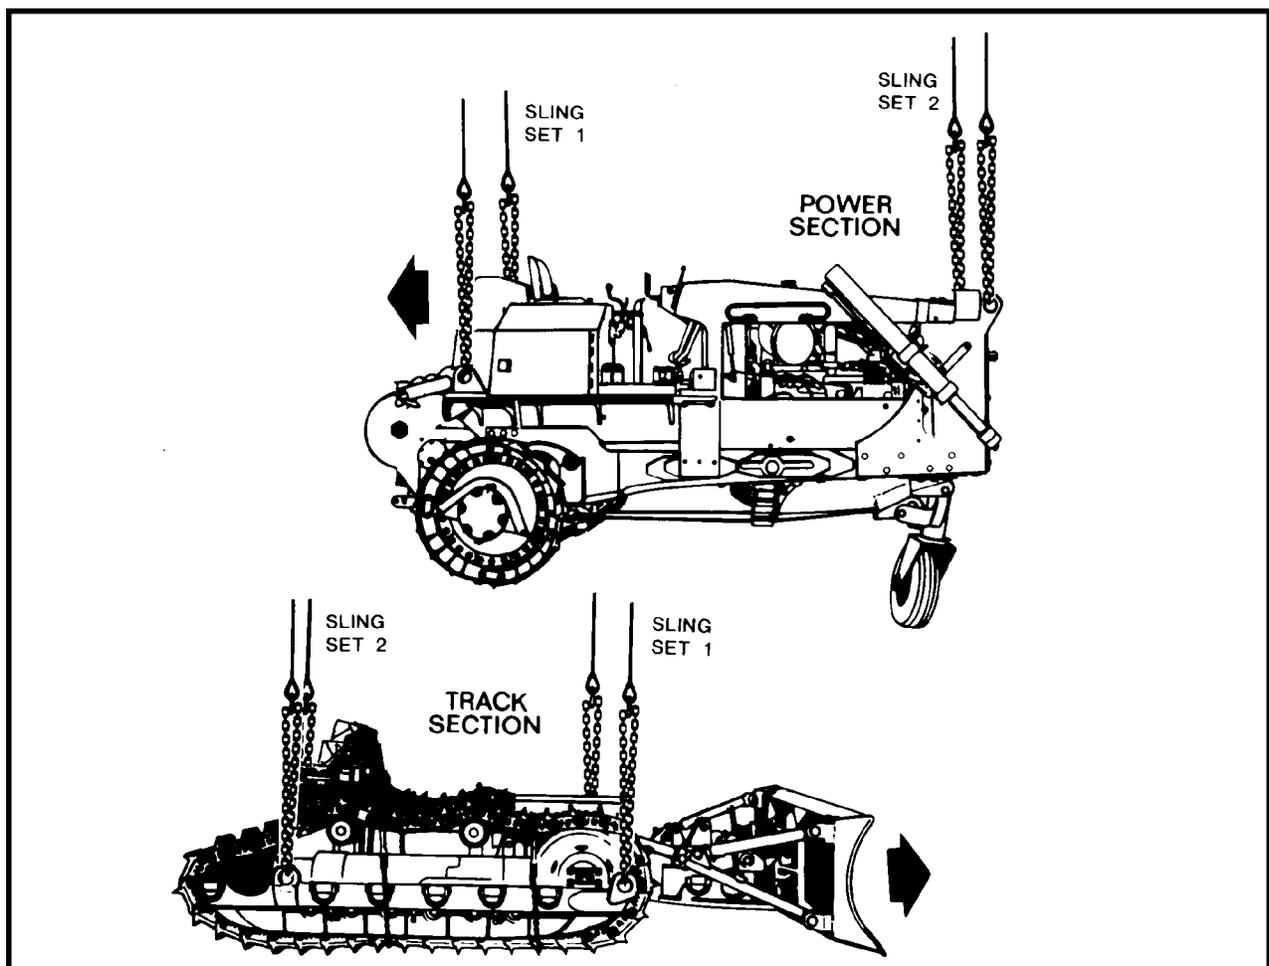

Figure 8-1. D5B Tractor Dozer, Sectionalized
(2) **Rigging.** Rig the load according to the steps in Figure 8-1.